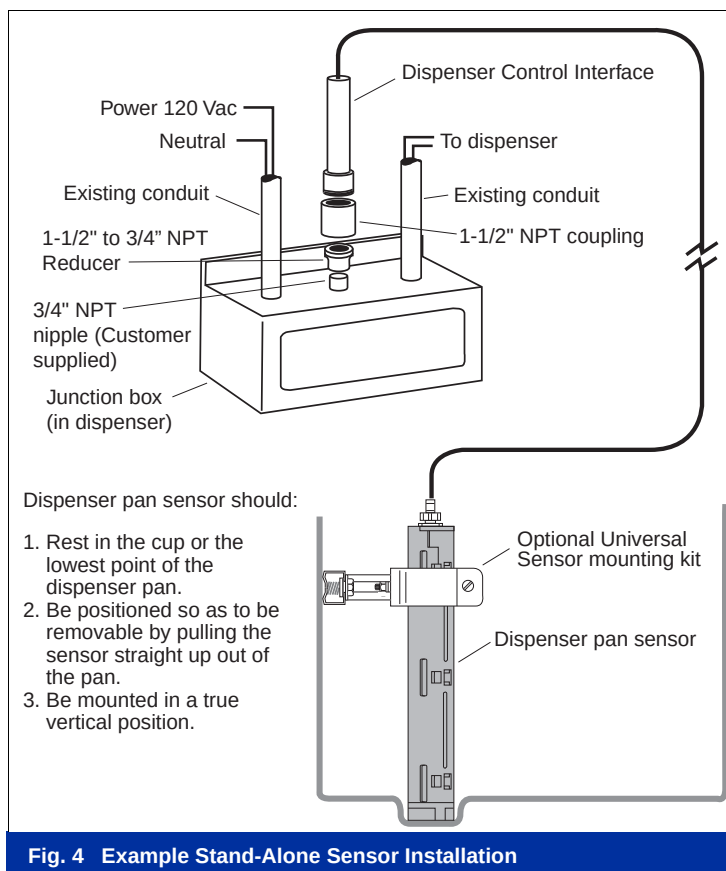

Fig. 4 Example Stand-Alone Sensor Installation
- Universal Sensor Mounting Kit, P/N 330020-012, contains sensor mounting brackets and screws (see Fig. 4).